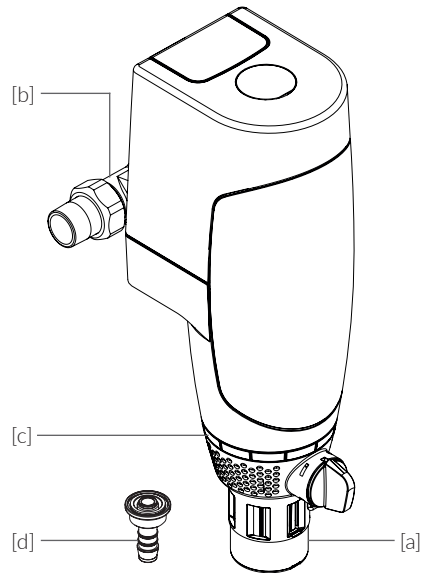

Fig. 5.1
Hose nozzle for filter [d] (Fig. 5.1)
- / Output pressure gauge 0 - 10 bar (Fig. 5.1)